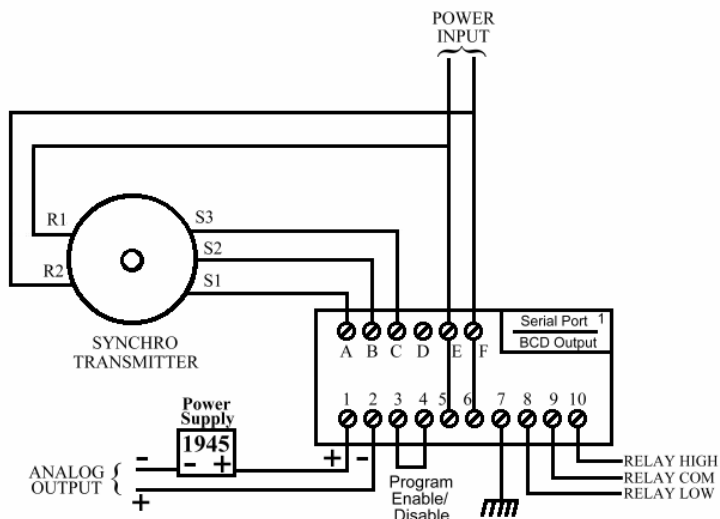

Figure 1.3 Field Wiring Diagram with 4-20mA Output
- 3) Models with 4-20 mA analog output options must have an EXTERNAL LOOP POWER SOURCE of 10.0 VDC minimum, 24.0 VDC maximum, in series with the current loop. The INCON Model 1945 Power Supply is recommended for these installations, (See Figure 1.3).